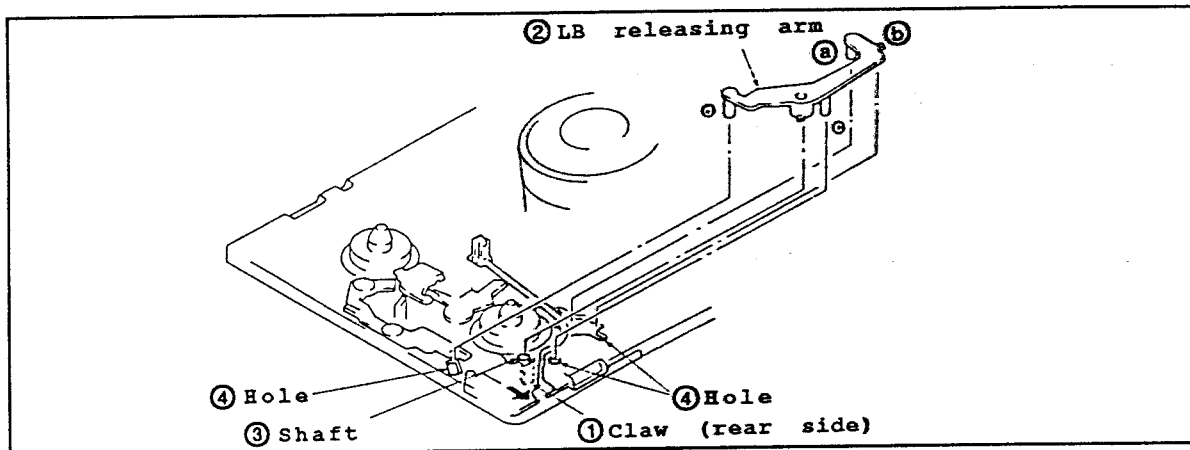

Fig.II-12
- Disassembling (Fig.II-12)
- (1) Take off the LB releasing arm ② while pushing the claw ① in the arrow direction.
- Reassembling (Fig.II-12)
- (1) Install the LB releasing arm ② to the shaft ③ while inserting ④, ⑤, ⑥ and ⑦ to the holes ⑧, respectively. Then, secure it by hooking the claw ①.